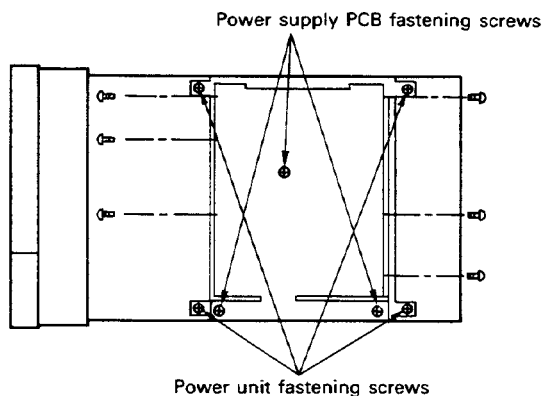

Fig. 2-2
Raise the front panel slightly and push it away to remove the front panel (Fig. 2-2).
1. As shown in Fig. 2-2, remove four screws fastening the power supply unit. Also remove three grounding wires fastened by the fastening screws. Raise and turn the power supply unit to remove the unit from the chassis.